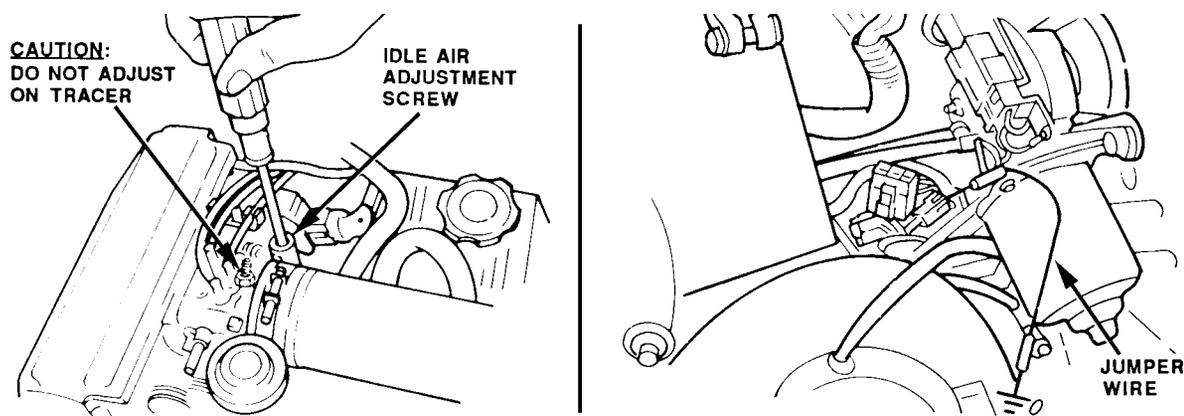

Figure F050-20 Festiva and Tracer
1. Connect a jumper wire between the self-test input (STI) connector and ground (Figure F050-20 to Figure F050-24). (TEN connector on Escort, Figure F050-22)
On Tracer models, do not tamper with the adjustment screw located to the right of the idle adjustment screw (Figure F050-20). Misadjustment of this screw will affect driveability and may damage the throttle body.
- 850 \pm 50 rpm for pre-1990 Festiva and Tracer (Figure F050-20 on page F174)
- 700 \pm 20 rpm for 1990 Festiva and Tracer with MT (Figure F050-20 on page F174)
- 850 \pm 20 rpm or 1990 Festiva and Tracer with AT (Figure F050-20 on page F174)